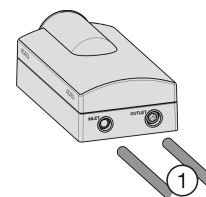

Fig. 37
- ▶ On the thin hose, measure the insertion depth (E) of 21/32 " (17 mm) and mark it.
- ▶ On the thick hose, measure the insertion depth (E) of 25/32 " (20 mm) and mark it.
- ▶ Insert the hoses *Fig. 37 (1)* all the way into the water filter module (i.e., up the the mark you made), past the point of resistance.